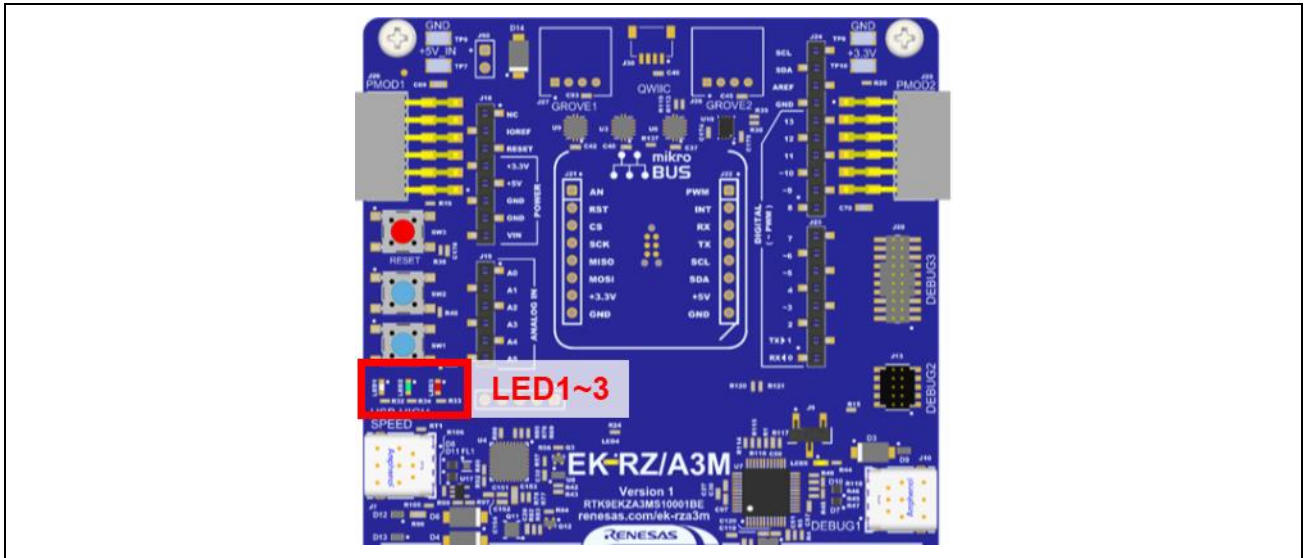

Figure 3.23 LED Blinking (Blinky Project)
4. The application runs. When Blinky Project created in Section 3.1 is written, LED1 ~ 3 of EK-RZ/A3M blinks. (Figure 3.23)